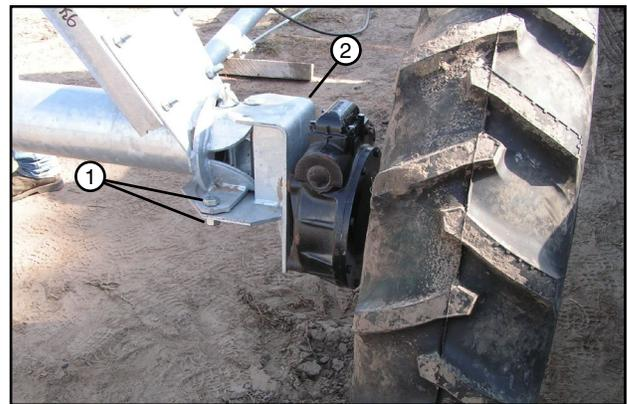

Figure 33-2 Towing Position Shown
8. Secure gear box mount in the tow position with the original hardware. See figure 33-2.